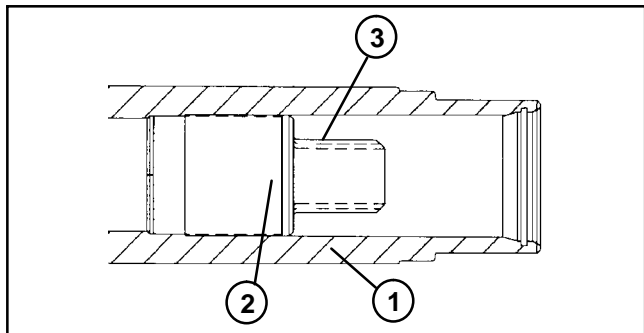

Figure 59
2. Inspect reel (1) as follows:
- C. Check drive adapter inside of reel shaft. Adapter should be free of bending and distortion. Check splines for excessive cracks and distortion. Replace reel if necessary (Fig. 59).